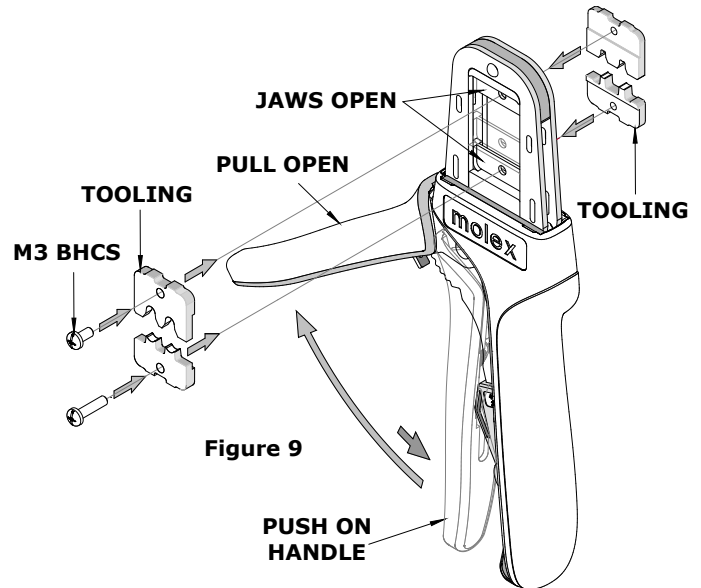

Figure 9
3. Flip the upper tooling to the opposite side, and replace the M3 BHCS. Make sure the small markings on the front and back of the hand tool frame match up and are on the outside of the hand tool frame. See Figures 9 and 10.